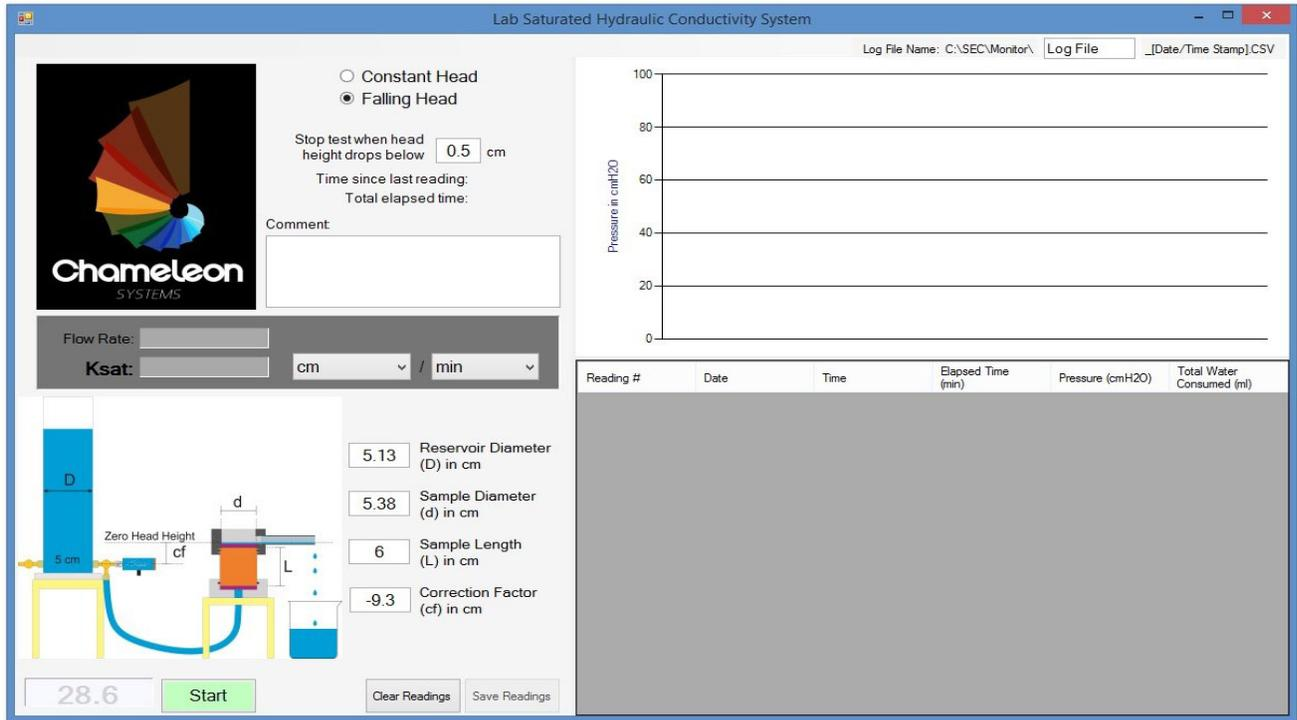

Fig. 33
- In the “Reservoir Diameter” field enter the Reservoir inside diameter (D). Chameleon Reservoir inside diameter is 5.13 cm. Please also note that the outside diameter of the Air Tube is assumed to be 0.635 cm.
- In the “Sample Length” field enter your sample length (L). Chameleon standard sample ring is 6.00 cm long.
- Open Valve A; wait for 10 seconds and then click “Start” (Fig. 33).